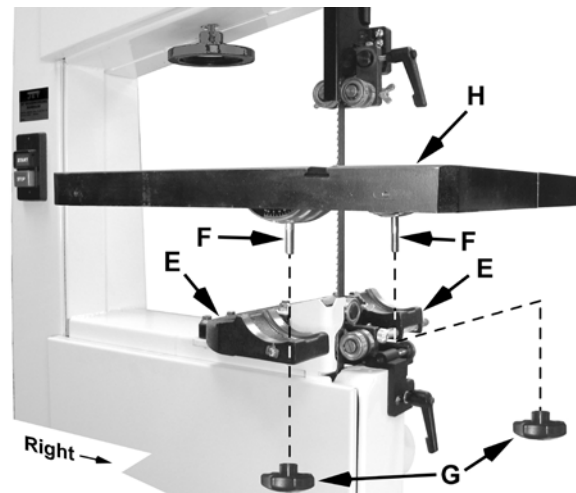

Figure 5
1. Remove the table *insert* (A) and *tapered pin* (B).
2. Slide the table so the *saw blade* (D) passes through the *slot* where the *tapered pin* (B) was located.
3. Rotate the table 90 degrees so that the miter slot (C) is parallel to the blade (D) and to the right of the blade when facing the band saw as viewed in Figure 5.
4. Line up the *table* (H) to the trunnions so that the *bolts* (F) feed through the *support bracket* (E). Secure the table with two *lock knobs* (G). Reinstall the table *insert* (A) and *tapered pin* (B).